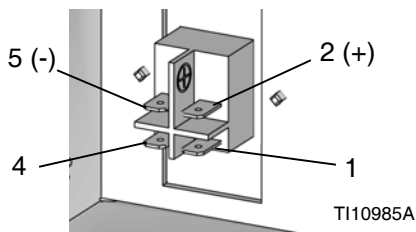
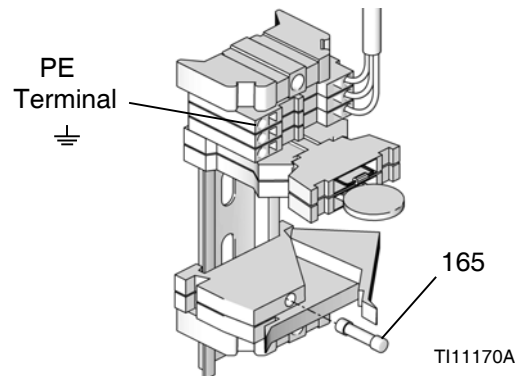

FIG. 37
FIG. 38
2. Mount 24 VDC module (154) on mounting bracket (151).
3. Mount power switch (159) on mounting bracket (151).
4. Attach quick disconnects on cable from 24 VDC module (154) to terminals on power switch (157).
5. Install power supply output cable to CAN cable (163).
6. Attach 24 V Class 2 power supply to terminals on the power switch: +24 VDC to terminal 2 (+) and 24 VDC return to terminal 5 (-). See FIG. 37. Attach protective earthing (PE) conductor to terminal marked  $\perp$ . See FIG. 38. The 24 VDC power supply must be capable of supplying at least 1.0 Amp and have supply current protection rated at no more than 2.5 Amps.
7. Install cover plate (160), screws (156), and washers (164).